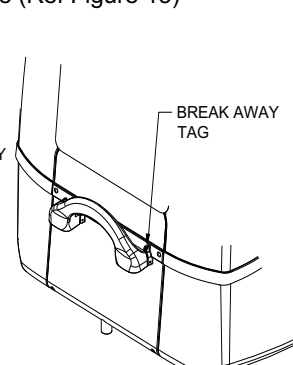

Figure 13
- B. Place easy Break Away Tag through hole provide on right side of handle (Ref Figure 13)
- 2) Visually inspect easy Break Security Tag is intact (Ref Figure 13).